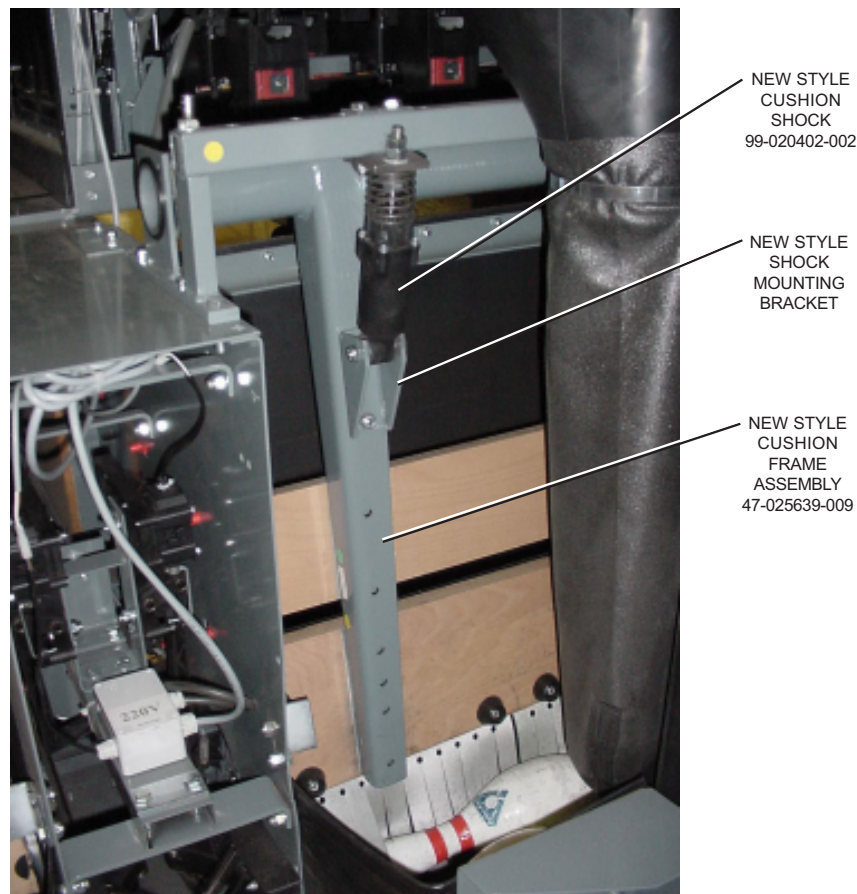

FIGURE 1
Based on feedback from our customers and distributors, we have thickened the material on our ball cushion frames. We have also added a new mounting bracket for the cushion shock. The previous version of mounting bracket was a welded assembly. This resulted in some issues with weld stress areas in the cushion material. The new cushion shock bracket is bolted to the cushion frame. Refer to Figure 1.
***Note:** When ordering this new ball cushion frame assembly, you must make sure that the cushion shock you are using is the new style shock, refer to Figure 1, without the shock fluid reservoir. The older type shock will not fit into the new cushion frame shock bracket. Part number of the new shock is 99-020402-002.*